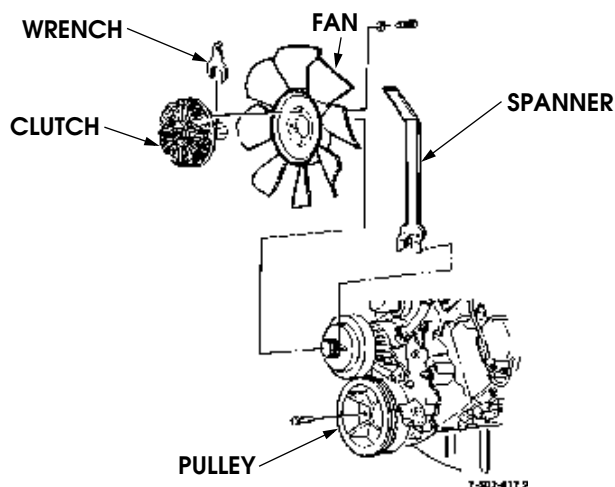

Figure 2-187: Fan and Pulley Installation.
1. Install crankshaft pulley and bolts (Figure 2-187).